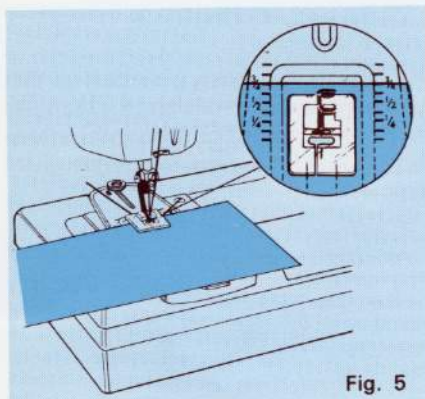

Fig. 5
5. Pick up bobbin thread through guide plate by turning hand wheel and drawing thread to back of machine. Place fabric between presser foot and guide plate. Line up edge of fabric with marked indentation on guide. See Fig. 5. If you wish all buttonholes to be 3/4 inch from edge of garment, line up fabric with 3/4 inch marking each time you start sewing a buttonhole.